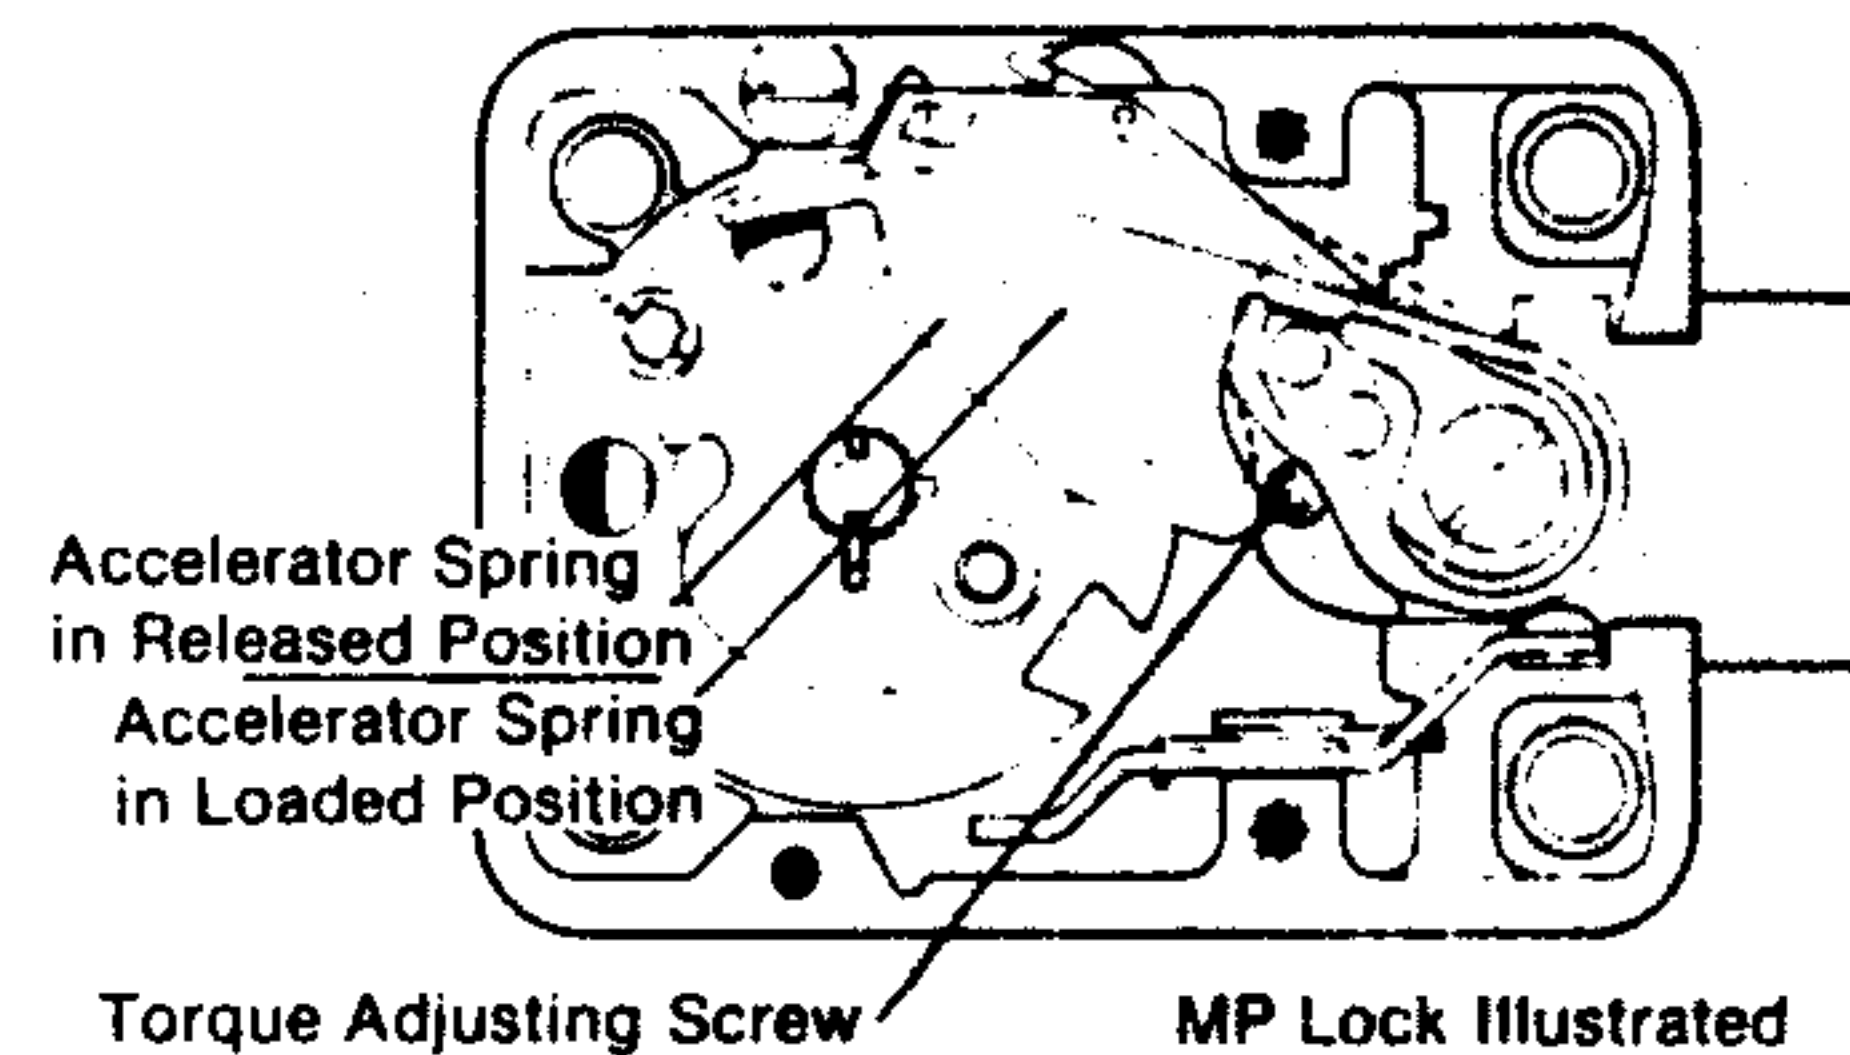

Figure 1
1. Remove lock cover. Place lock bolt in the extended position and the accelerator spring in the loaded position (Fig. 1—**CAUTION: Do not remove the drive cam.**)
The torque adjustment feature allows dial resistance to be adjusted for individual preference. To adjust torque, remove lock cover and insert a 3/32" allen wrench into the adjusting screw (See Fig. 1). Turn clockwise to tighten or counterclockwise to loosen.